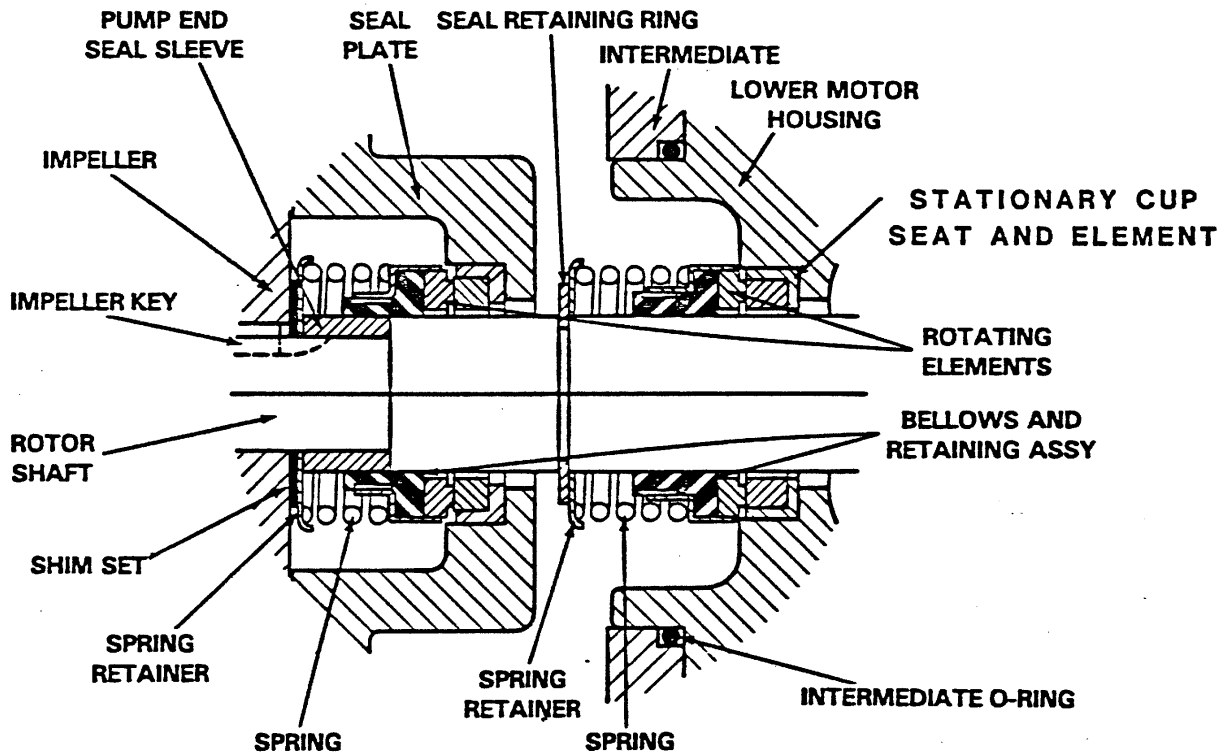

Figure 3. Seal Assemblies 46512-057 and S01832
Install the shaft seals as illustrated in Figure 3.
Slide the seal spring over the bellows retainer, and install the spring retainer. Install the seal retaining ring (60). See Figure 3 for proper order of seal assembly.
Slide the seal spring over the bellows retainer, and install the spring retainer. See Figure 3 for proper order of seal assembly.